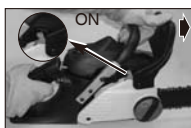

Fig. 6B
2. The CHAIN BRAKE is ENGAGED (chain is stopped) when brake lever is in forward position and the chain brake latch is in the ON position. You should not be able to move chain. (Fig. 6B)